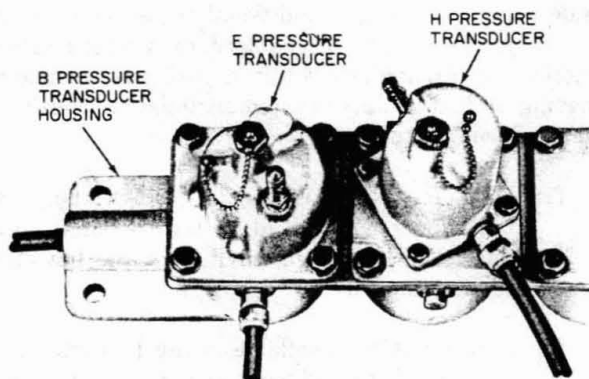

Fig. 20—H Transducer Installed in B Transducer Housing
- (4) Insert the terminated end of the transducer into the housing cavity and secure to the housing using the four bolts removed in Step (1). See Fig. 20.
- (5) Connect the transducer cavity with tubing to the cable or pipe to be monitored.
- (6) Test, and adjust if required, the transducer as described in 6.20 and 6.21.